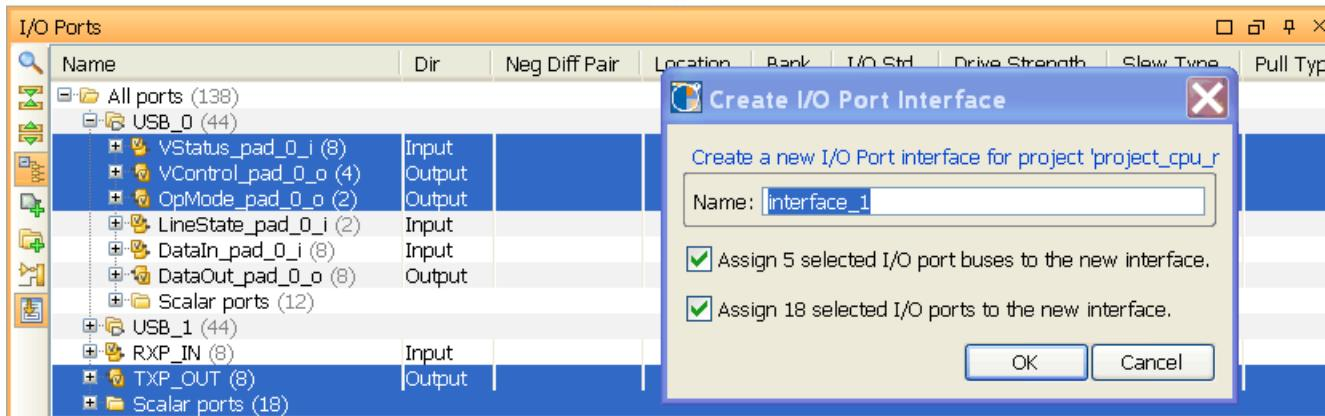

Figure 8-19: Create I/O Ports Interface
2. From the popup menu, select **Create I/O Port Interface**, as shown in Figure 8-19.